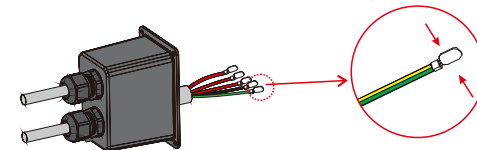

Figure 4.3-5 Install ac connection terminals
Step 3. Install the AC connection terminal on the cable.See Figure 4.3-5.